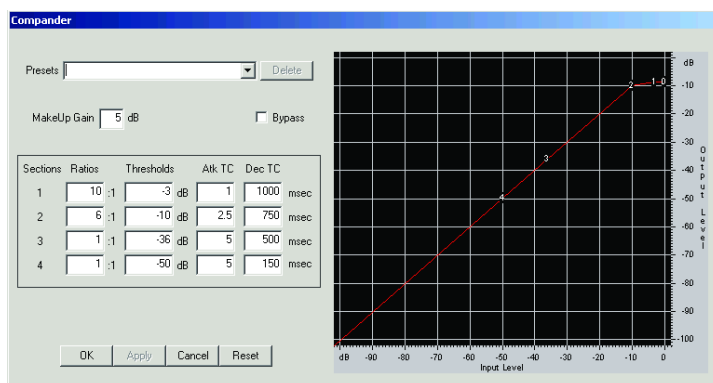

Figure 17.5: Volume Boost GUI with Drag Points
- Easy to use GUI, with drag points, see Figure 17.5